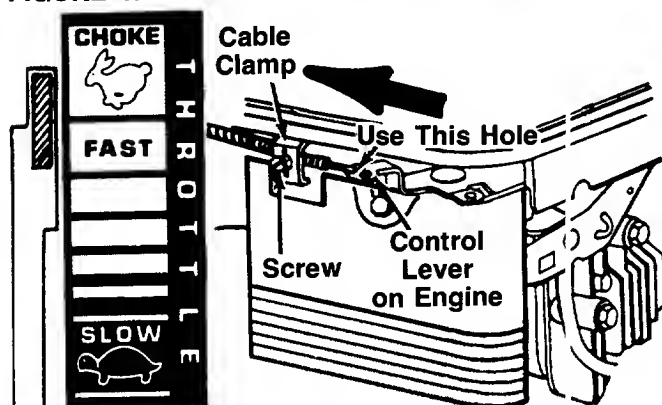

FIGURE 5.
1. Push the throttle control lever on the handle all the way forward to CHOKE position. See figure 5.
2. The throttle control cable is attached to the upper handle. Route the throttle control cable under the lower handle and inside the handle mounting bracket. Hook the "Z" end of the throttle control cable into the smaller hole in the control lever on the engine. See figure 5.
3. Using a screwdriver, remove the screw and cable clamp shown in figure 5. Remove the cable clamp from the cable.